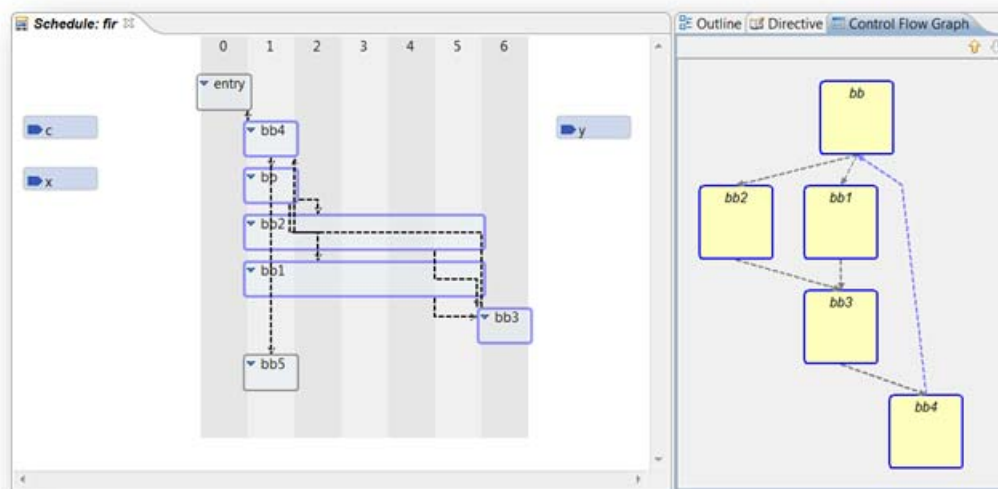

Figure 4-7: Cross-Probing the CFG and Schedule Viewer
In the Control Flow Graph pane, double-click on the **Shift\_Accum\_Loop** block and navigate down into the details of the loop, as shown in Figure 4-7.
When the `Shift_Accum_Loop` is selected, the corresponding items in the Schedule Viewer are also selected (see Figure 4-7).
1. In the Schedule Viewer expand the first block, **bb**, by clicking on the **arrow** in the top-left corner (beside the name **bb**); see Figure 4-7.